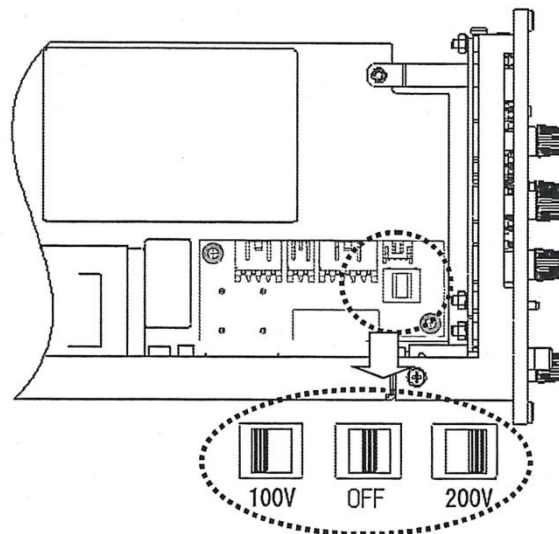

Fig.7-7
3. The AC power supply selection switch is positioned at the location shown in Fig. 7-7. Selection to 200VAC, OFF, and 100VAC is available. Voltage switching is available by sliding the switch to the target voltage position. The fuse can support both 100VAC and 200VAC. The installed fuse (100VAC/200VAC, 100mA: 0334-3006) can therefore be used for both supply voltages.